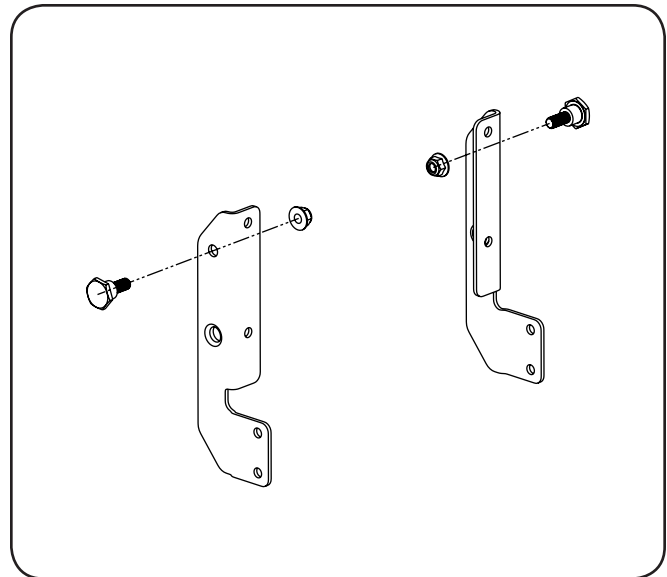

Figure 4-1
1. Install a shoulder bolt from your hardware pack on each bracket, securing them with flange lock nuts also included in the hardware pack. Refer to Fig. 4-1.